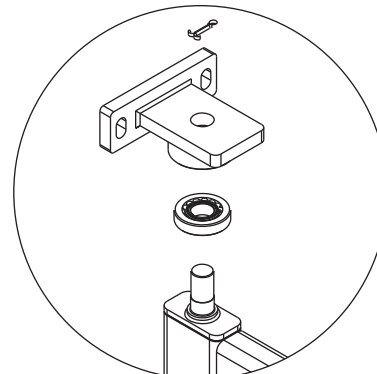

Fig. 6 Installing upper pivot mounting assembly
- 8 Place upper mounting bracket assembly on upper pivot pin of jib arm weldment (fig.6). Secure upper mounting bracket assembly to support structure using bolts (not supplied).